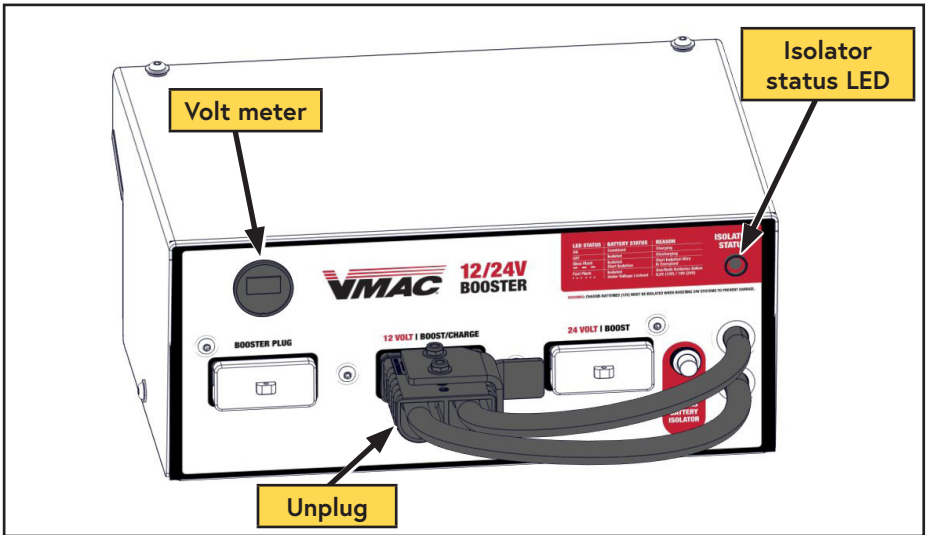

Figure 7 — Unplug the voltage selector
The battery booster is equipped with a voltmeter (Figure 7). The reading depends on the position of the grey voltage selector plug and whether the booster cables are connected.
- ☐ Unplug the grey voltage selector plug from the booster. The volt meter will read 0 V (Figure 7).